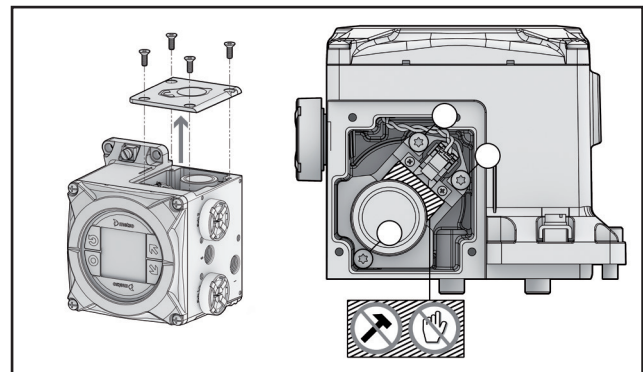

Fig. 79.
- Unplug the prestage wire connector from the prestage (Fig. 79)
- Loosen the screws holding the prestage in place. (Fig. 79)